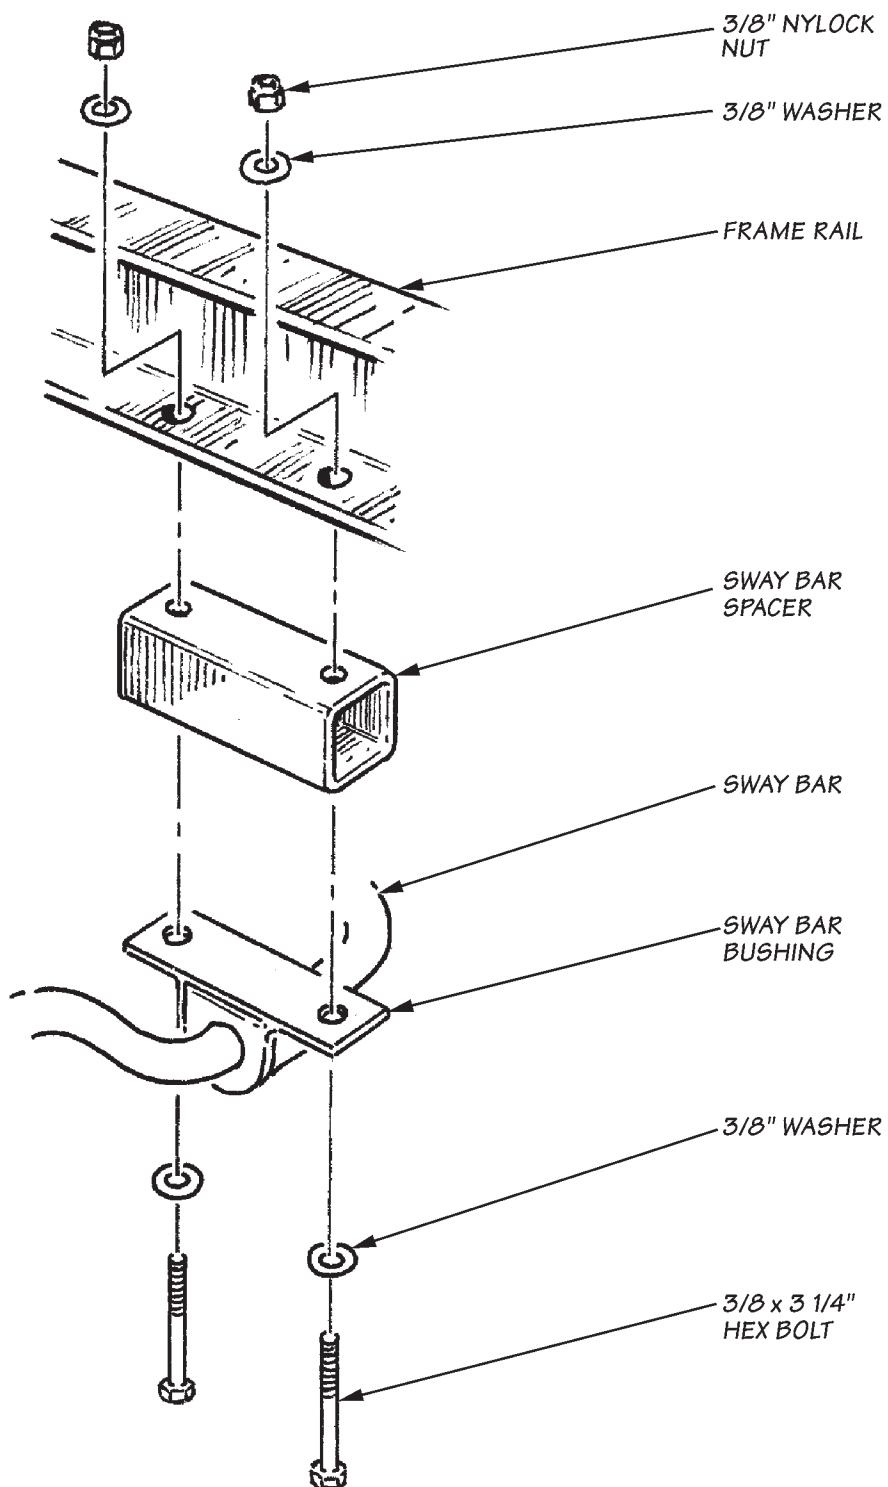

FIGURE 11
46. Install two rubber air-dams provided onto the drilled tabs on the intercooler end tanks. Use four #10-32 screws, washers, and Nylock nuts to attach each air-dam. **See Figure 11.**